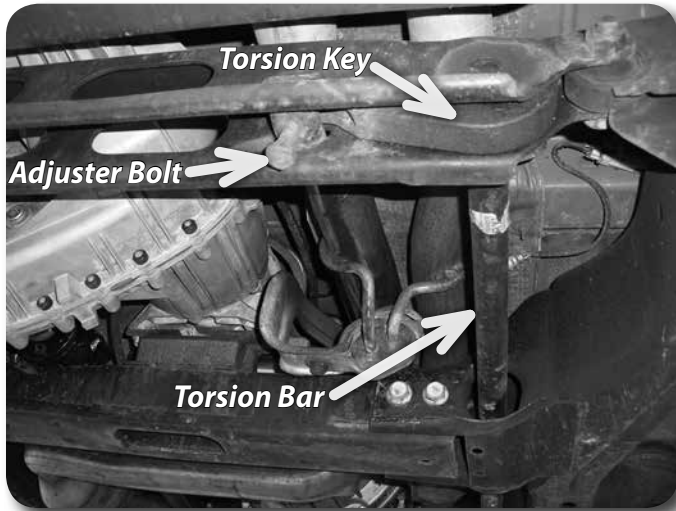

Figure 1
4. Measure the length of the torsion bar adjuster bolts (top of the adjuster bolt head to adjuster) and record - see side box. **Figure 1**